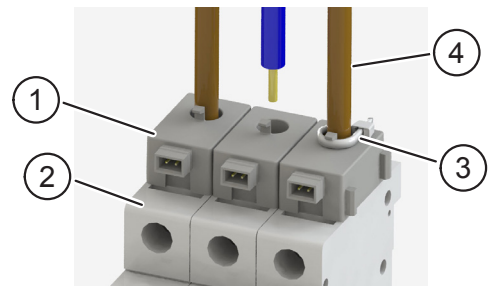

Fig. 3: Installing current sensors
- ▶ Place the linked current sensors (pos. 1 in Fig. 3) onto the top of the circuit breakers (pos. 2 in Fig. 3) so that the holes in the sensors are in line with the terminals on the circuit breakers.
- ▶ Maneuver the conductors (pos. 4 in Fig. 3) through the current sensors and attach them to the terminals on the circuit breakers.
- ▶ Fasten the conductors to the tabs on the current sensors with cable ties (pos. 3 in Fig. 3).